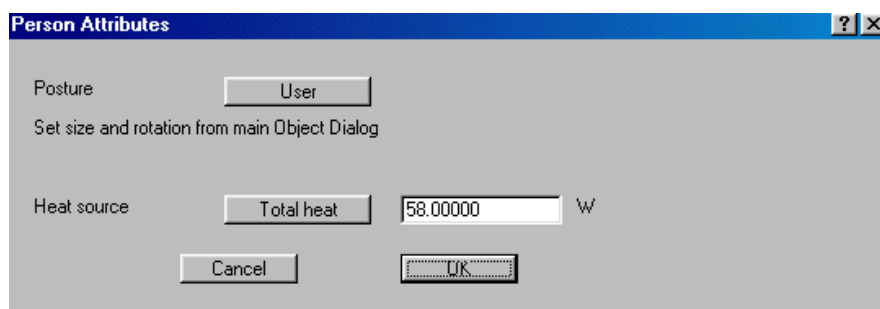

Figure 2.8 The PERSON's attributes panel
- Click on the 'Attributes' button. This will bring up the 'Person Attributes' dialog box as shown in figure 2.8